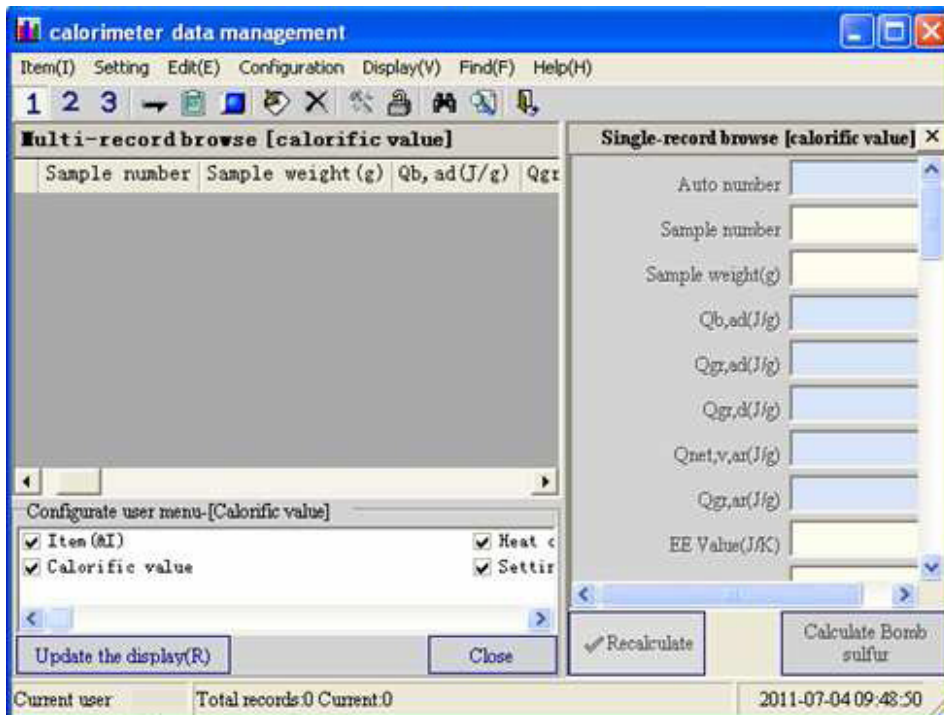

Fig.5-12
- User menu: Authority allocating for the current logging in user (shown as Fig. 5-12).